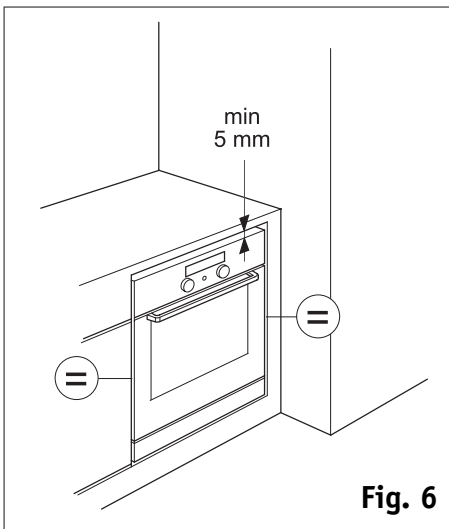

Fig. 6
- When installing ovens under the worktop, leave a minimum clearance of 5 mm between the upper edge of the oven and the lower edge of the worktop (fig. 6). **In order for the appliance to operate properly, this clearance must never be obstructed.**